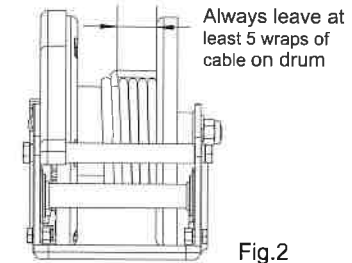

Fig.2
3. ALWAYS LEAVE AT LEAST 5 WRAPS OF THE CABLE ON THE DRUM (Fig. 2). Failure to do so may break cable connection to drum and may result in serious accident.